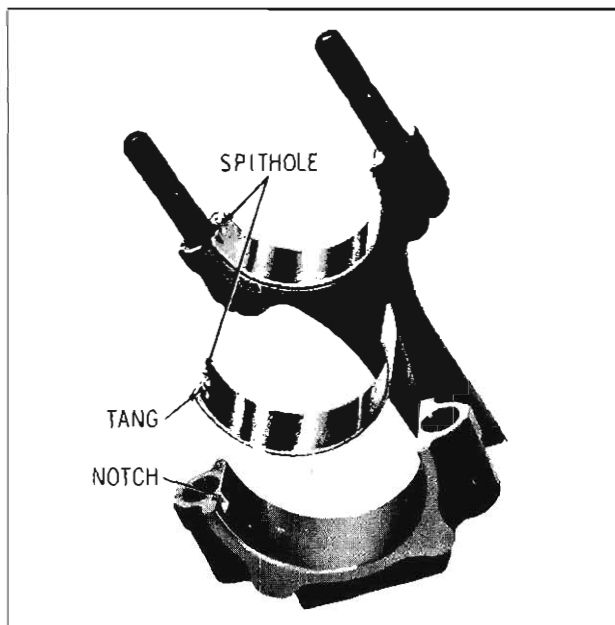

Fig. 3-426 Bearing Tang and Notch
5. Clean oil from journal bearing cap, connecting rod, and outer and inner surface of bearing inserts. Position insert so that tang is properly aligned with notch in rod and cap. (Fig. 3-426)